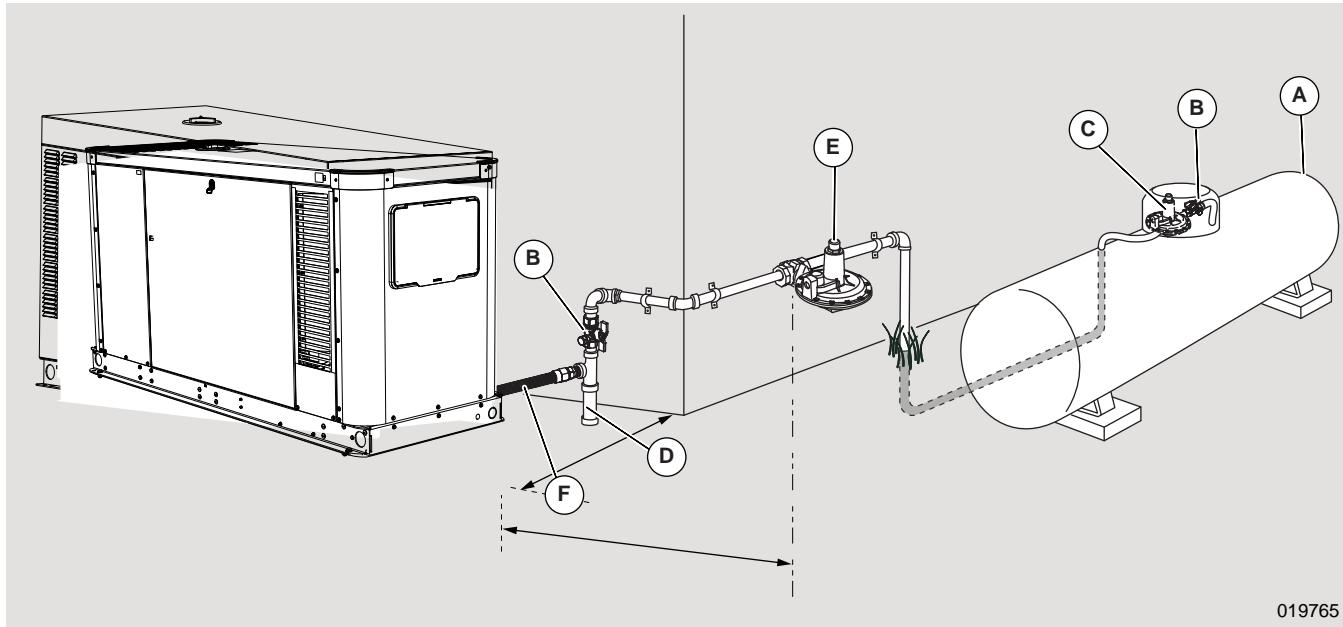

Figure 4-2. Typical LP Gas Withdrawal Fuel System
See Figure 4-2. LP gas uses vapors formed above liquid propane in fuel supply tank (A). The maximum fuel tank fill capacity is 80% and a minimum of approximately 20% of fuel tank capacity is needed for fuel expansion from liquid to vapor state. Fuel pressure and volume requirements for a LP gas system at the connection point of generator are listed on unit specification sheet.